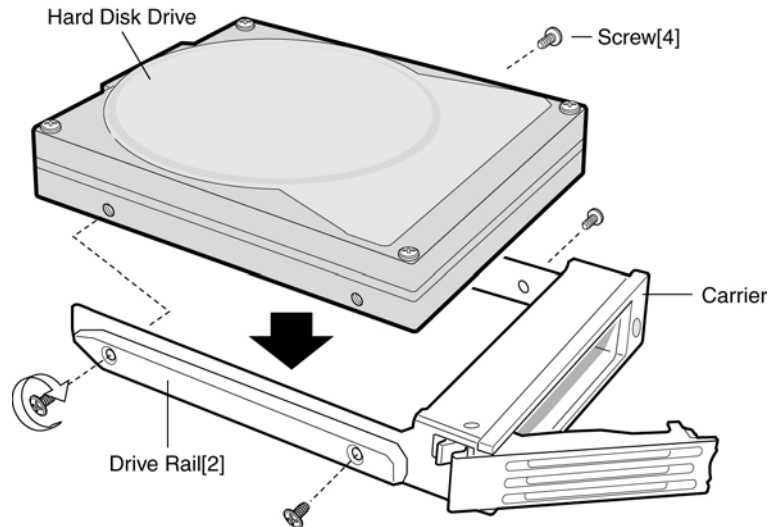

Figure 56. Attaching the Hard Drive to the Carrier
7. Position the carrier as shown in *Figure 56*.